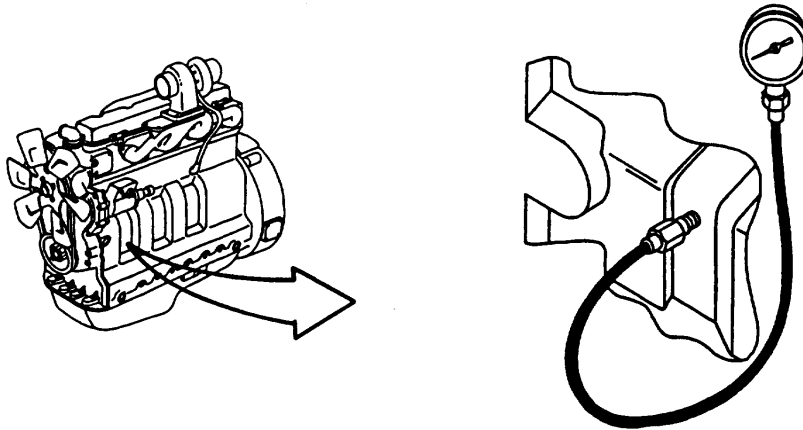

FIGURE 3-38. Oil Pressure Test Setup
- a. Attach pressure gage at pressure port shown on FIGURE 3-38.